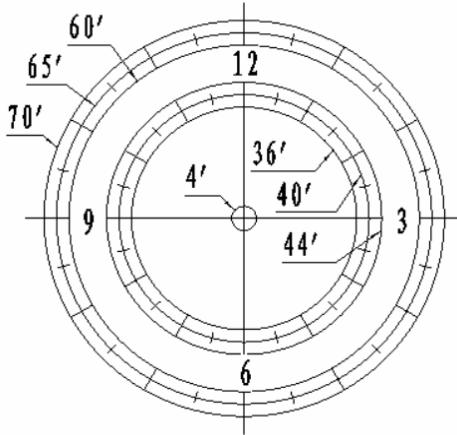
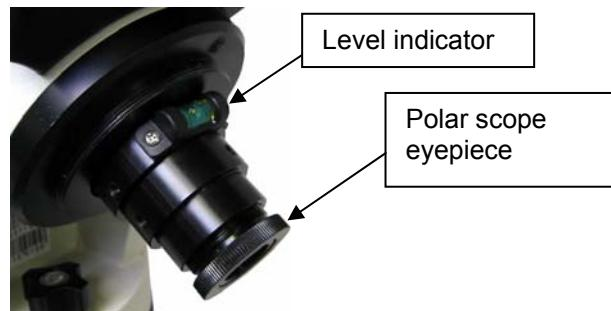

Figure 11. Polar Scope Dial
Figure 12. Polar scope with bubble level indicator
As indicated in Figure 11, the Polar Scope Dial has been divided into 12 hours along the angular direction with half-hour tics. There are 2 groups, 6 concentric circles marked from 36' to 44' and 60' to 70', respectively. The 36' to 44' concentric circles are used for polar alignment in northern hemisphere using Polaris. While the 60' to 70' circles are used for polar alignment in southern hemisphere using Sigma Octantis.
During initial setup of the iEQ mount, it is likely that the viewing hole on the DEC axis of the polar scope may be blocked by the DEC axle. The Polar Scope Dial in the polar scope may not be set at the normal clock position with 12 located at the top, as shown in Figure 11. Before doing the Quick Polar Axis Alignment, complete the following steps:
- (1) Take off both the Polar Axis Cover and the Polar Scope Cover from the mount.
- (2) First, thread the dark field illuminating LED end into the threaded hole located on the Polar Scope. Then plug the other end into the Reticle socket located on the R.A. unit. The illumination intensity can be adjusted using the hand controller (HC) via the “**Set Eyepiece Light**” function under the “**Set Up Controller**” menu.
- (3) Use the ▲ or ▼ button to turn the DEC axle to unblock the Polar Scope view.
- (4) Adjust polar scope eyepiece shown in Figure 12 to bring the polar scope dial in focus.
- (5) To rotate the Polar Scope to align the 12 position of the dial on the top, as shown in Figure 11, release the four R.A. clutch screws while holding the OTA, if an OTA is mounted. Then turn the R.A. drive using HC’s ◀ or ▶ button (press 9 button to change the rotation speed to MAX). If your Polar Scope is equipped with a bubble level indicator, as shown in Figure 12, simply make sure the bubble is in the middle.